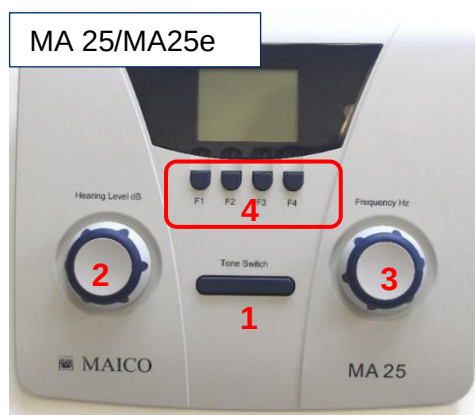
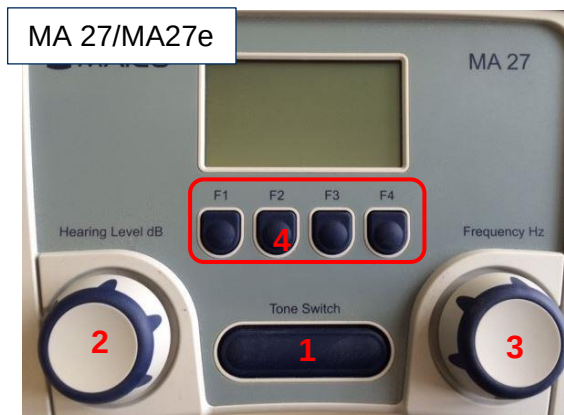

Figure 10
Figure 11
To turn on the audiometer press the **Tone Switch** button (Figure 10/Figure 11, 1).
Figure 10 and Figure 11 show the device layout. Table 6 gives further explanation.
Function keys are the buttons below the display. Function of the button is displayed on the bottom of the display. These buttons are labeled **F1**, **F2**, **F3** and **F4**. See Figure 10 and Figure 11 (4) well as Table 7 for the selections available for each function key in the testing mode.